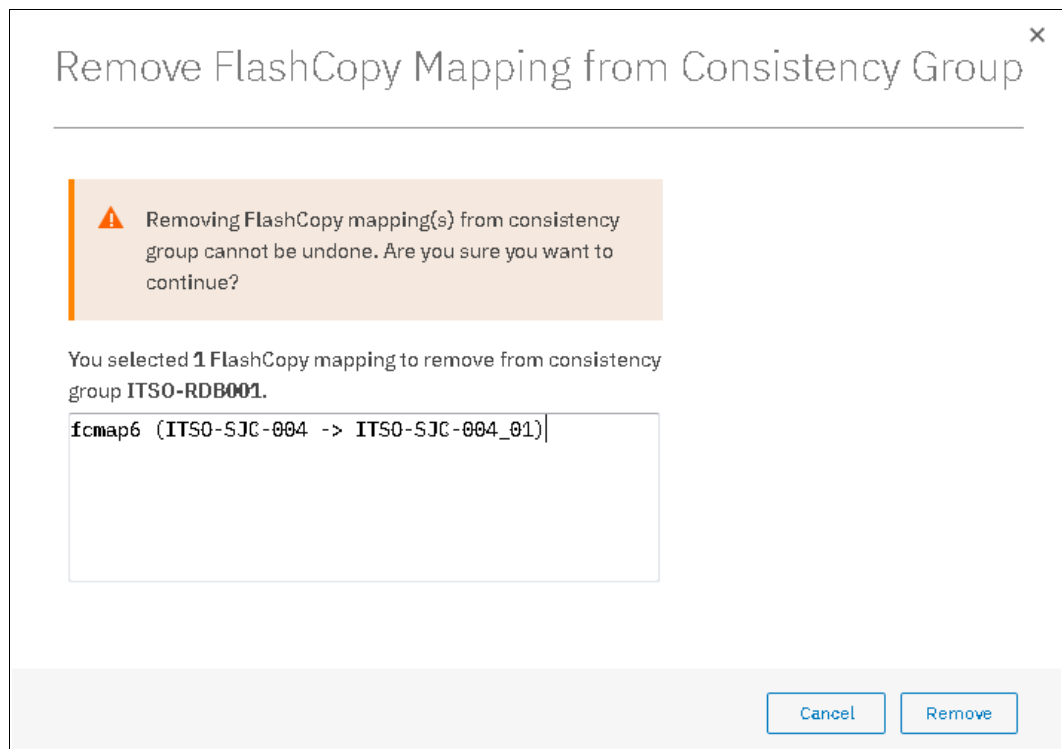

Figure 10-47 Remove FlashCopy Mapping from Consistency Group
- In the Remove FlashCopy Mapping from Consistency Group window, click **Remove**, as shown in Figure 10-47.